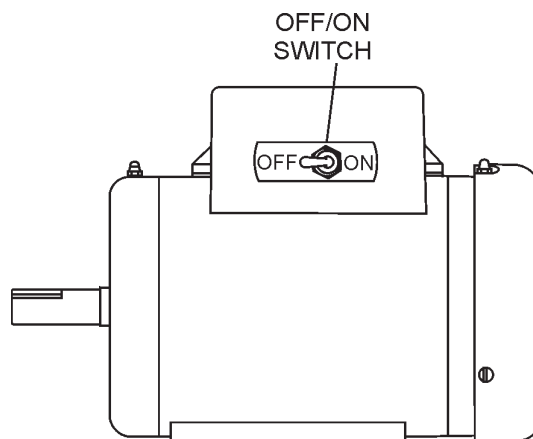

Figure 29. Electric Motor OFF/STOP Switch
1. To stop the electric motor, move the **ON/OFF** switch to the **OFF** position (Figure 29).